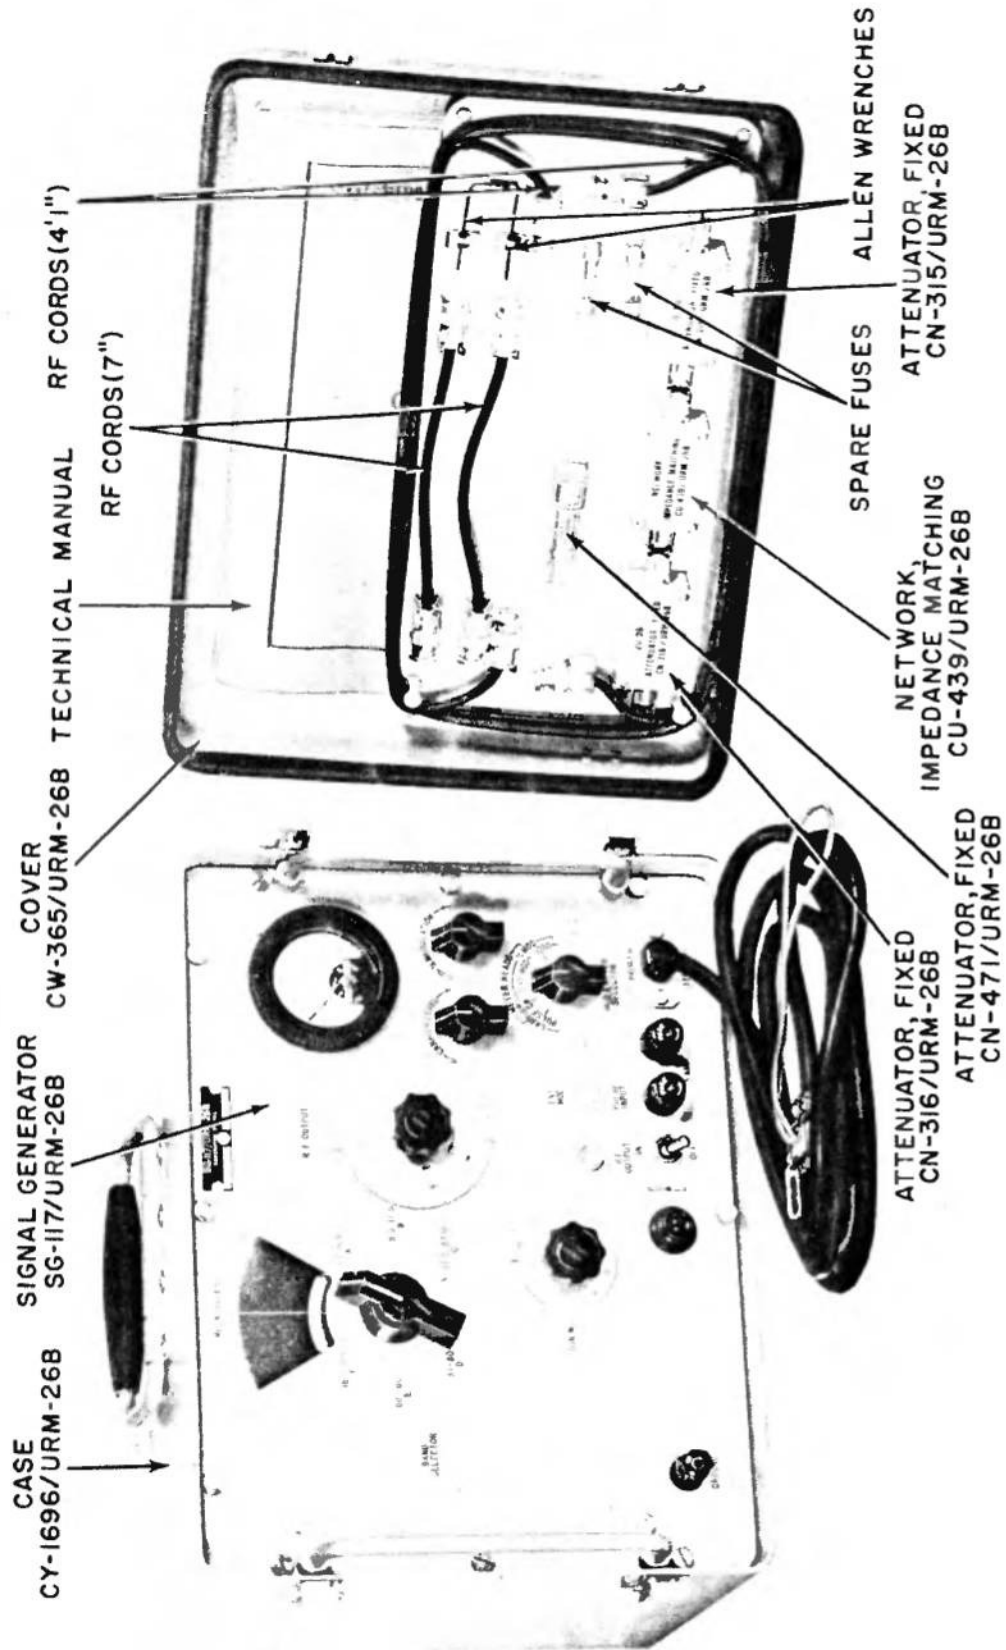

Figure 1-1. RF Signal Generator Set AN/URM-26B. Complete Equipment.
a. Signal Generator SG-117 URM-26B and Power Supply PP-1215/URM-26B are contained within Case CY-1696/URM-26B. All controls, connectors, fuses and the meter of the signal generator are located on the front panel, and are clearly marked for identification by black engraved characters against the grey finish background. Two handles, one on each side of the front panel, serve to facilitate the removal of the signal generator from its case and to protect the panel fixtures from damage. The case has four spring hasps that permit the complete removal of the protective Cover CW-365/URM-26B. The cover includes a plate having spring clips in which the smaller components of the test set are mounted. The cords (rf cables), Allen wrenches and instruction book also are stored in the cover. (See figure 1-1.) Internally the signal generator consists of three major subassemblies:
(1) The radio frequency circuitry which is housed in a rugged cast aluminum shield, and includes the rf oscillator circuit, the waveguide below-cutoff (piston-type) attenuator, and the filter networks which prevent the appearance of rf current in the external circuit wiring.
(2) The audio modulating and metering circuits that are part of a subassembly mounted on the front panel.
(3) The power supply which is built into a sub-chassis assembly bolted in position in the case. Its input and output are connected to the signal generator by a detachable plug and a short length of cable.
h. The coaxial rf cords supplied (see figure 1-1) are used in making connections between the signal generator output and the equipment being tested, and to facilitate the insertion of the impedance adapter and fixed attenuators. Two cords, four feet long and two cords seven inches long are supplied. These cords are terminated at each end in type UG-88/U coaxial connectors.